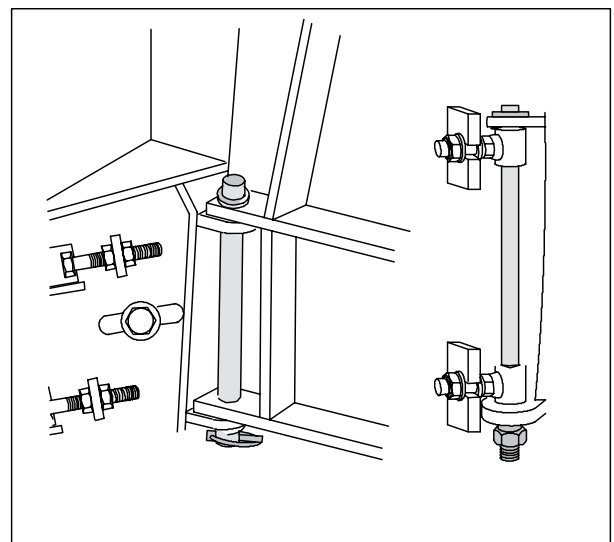

Fig. 5. Mounting the feeder on the chipper
2. Attach the feeder frame to the chipper pins and lock bolts. Fig. 5.